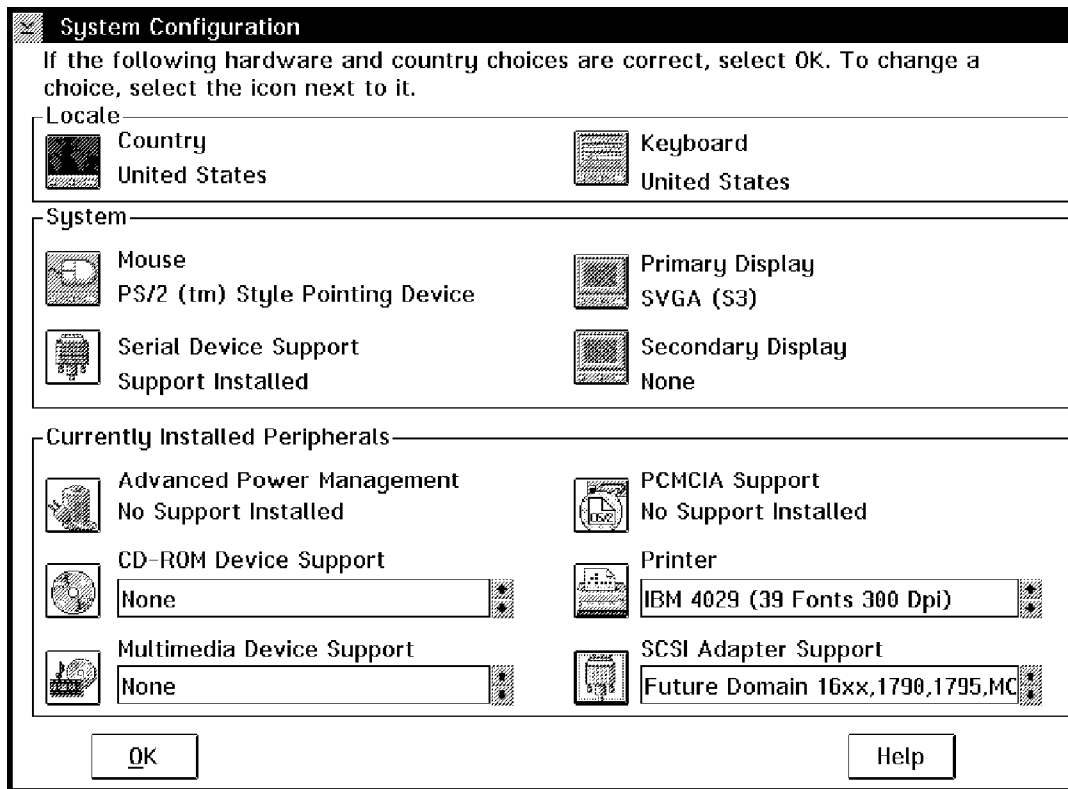

Figure 50. CD-ROM Selective Install
4. Select **CD-ROM Device Support** as shown in Figure 50 on page 162.